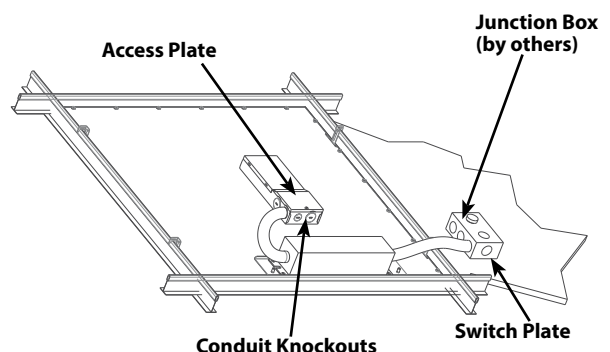

Fig. 3
5. Loosen **Access Plate Screw** and remove the **Access Plate**. Knock out appropriate **Conduit Knockouts** on the **Access Plate** to route input conduit. Use appropriate conduit connectors as required by code (Fig. 3).